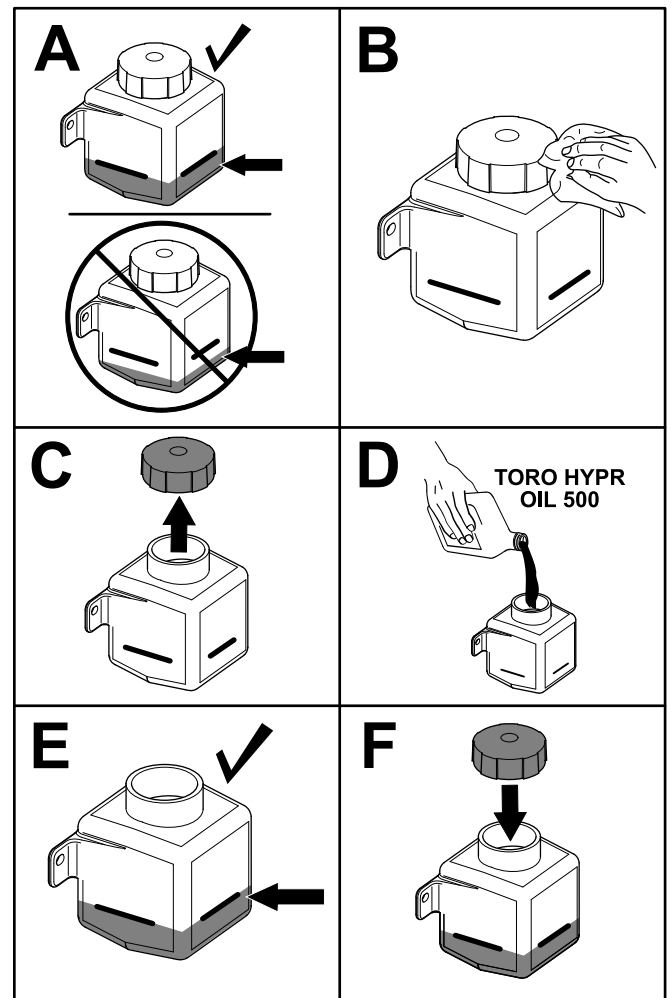

Figure 62
4. Check the fluid level on the side of the hydraulic tank (Figure 62). Continue the procedure if the level is below the cold fill level.
5. Clean the area around the cap of the hydraulic tank (Figure 62).
6. Remove the cap from the filler neck and add fluid to the reservoir until it reaches the cold fill level (Figure 62).
7. Install the cap on the tank (Figure 62).